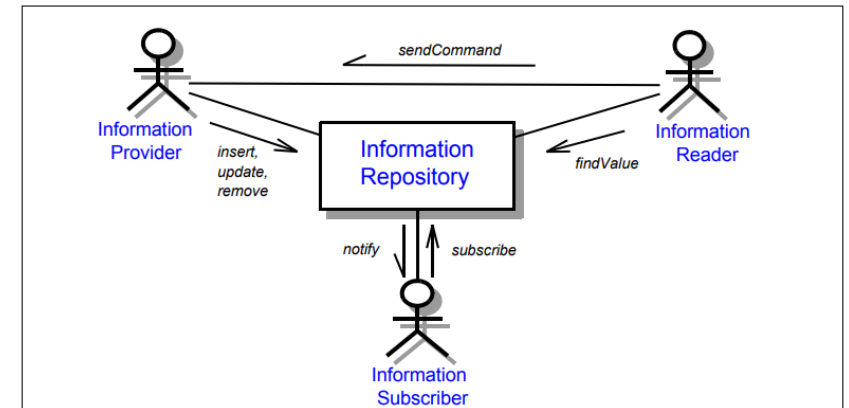

Figure 8: The ATLAS IS Design Architecture
- The ATLAS Information Service (IS) is used to share information between applications in a distributed environment.
- This repository enables three primary modes of interaction, as illustrated in Figure 8.